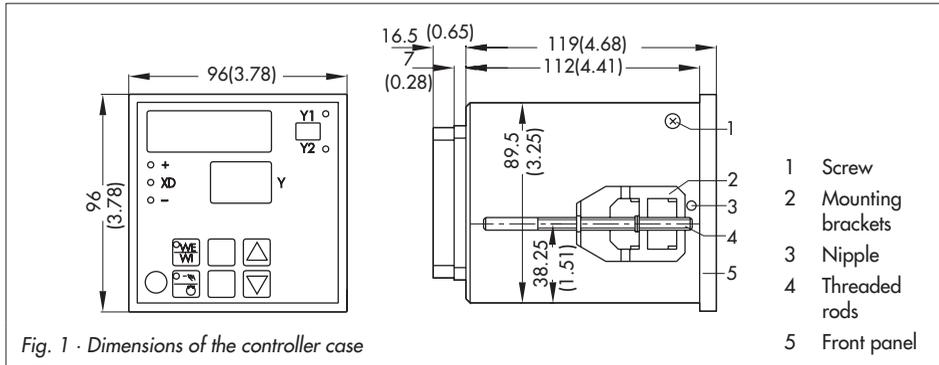

Fig. 1 - Dimensions of the controller case
3. Insert the two supplied mounting brackets in either the left and right (or top and bottom) openings provided in the case (see Fig. 1).